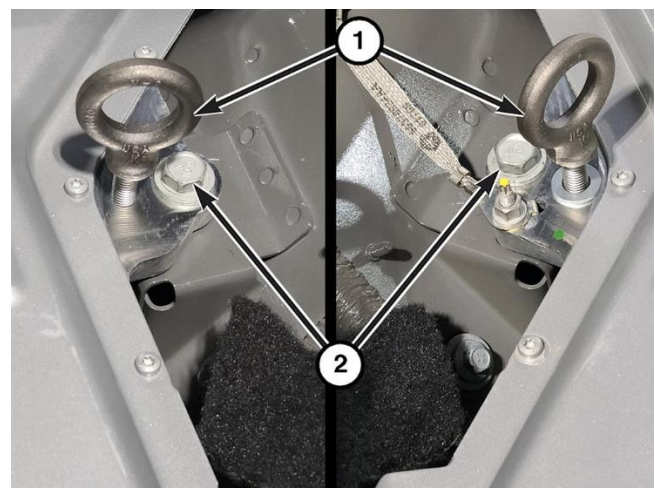

Figure 34 – Eyebolt Installation
58. Thread the other two Eyebolt, 10mm 2035203080 (1) into the threaded holes next to the HV battery pack mounting bolt holes (2) on the rear side of the HV battery pack (Figure 34).